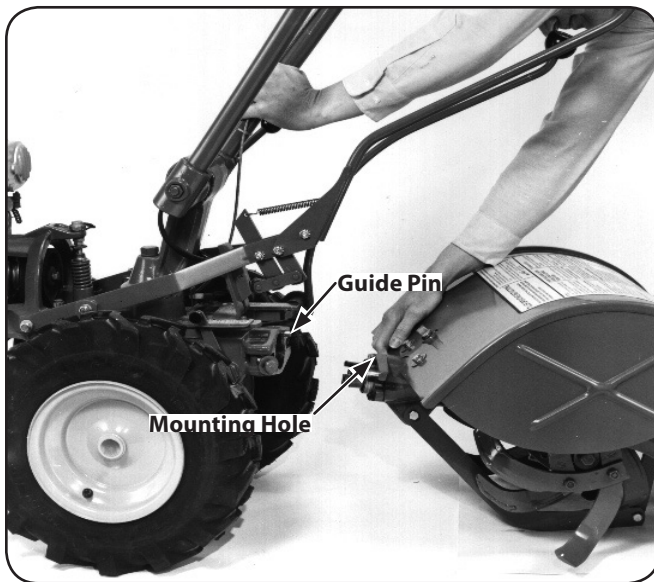

Figure 4-22
- Tip the PTO power machine forward about one inch with one hand while pulling the tine attachment back. Fig. 4-22.